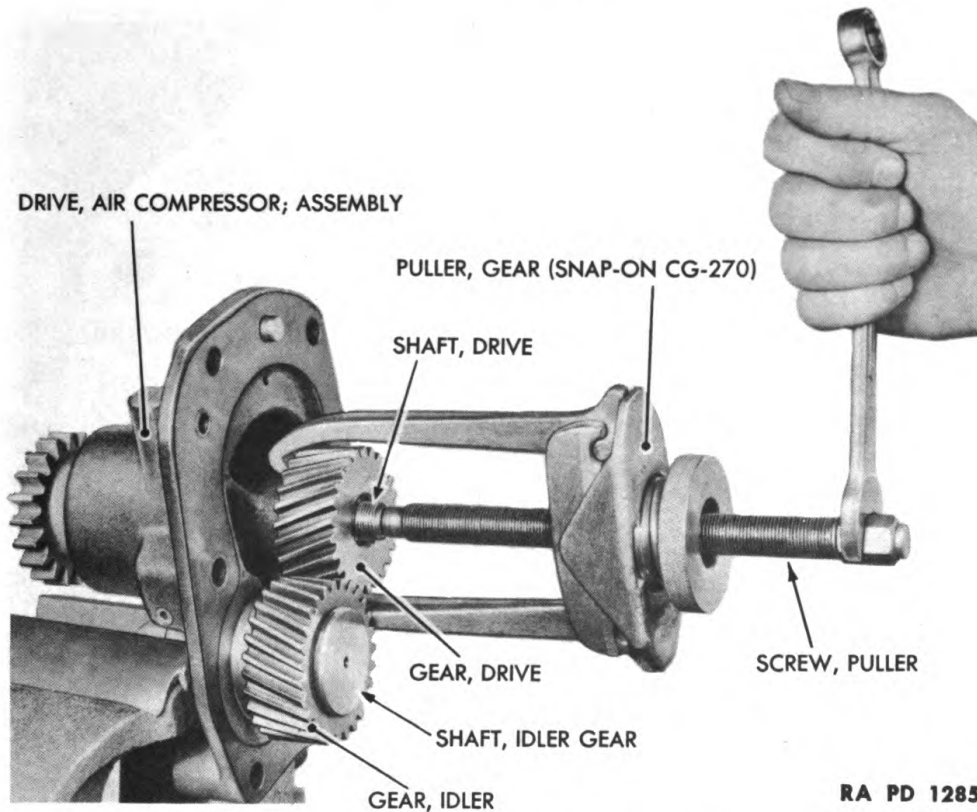

Figure 130—Air Compressor Drive Gear Removal
(1) REMOVE AIR COMPRESSOR DRIVE GEAR (fig. 130).
(2) REMOVE DRIVE SHAFT (fig. 130). Remove Woodruff key from end of drive shaft. Then pull drive shaft from housing.
(3) REMOVE IDLER GEAR (fig. 130).